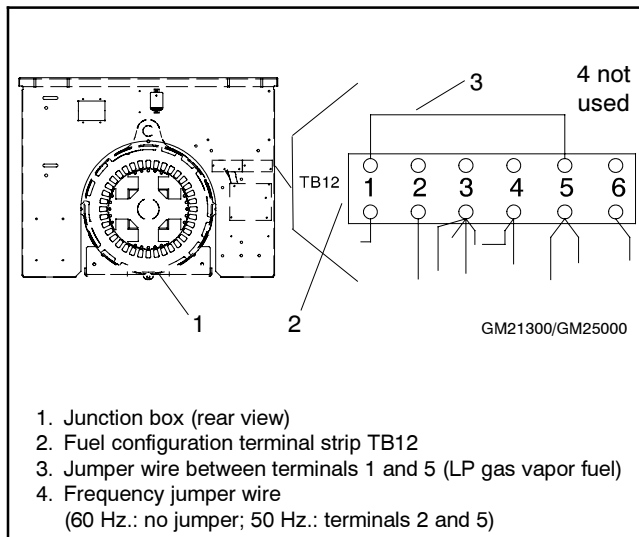

Figure 9 Fuel Configuration Jumper Wire, LP Fuel, 60 Hz, 80-125 kW Models
4.2.1 Remove the right side panel of the junction box and locate the fuel configuration terminal strip TB12. See Figure 9.
4.2.2 Attach a user supplied 18-ga. jumper wire between terminals 1 and 5 (LP gas vapor fuel). See Figure 9 for frequency jumper wire requirements.